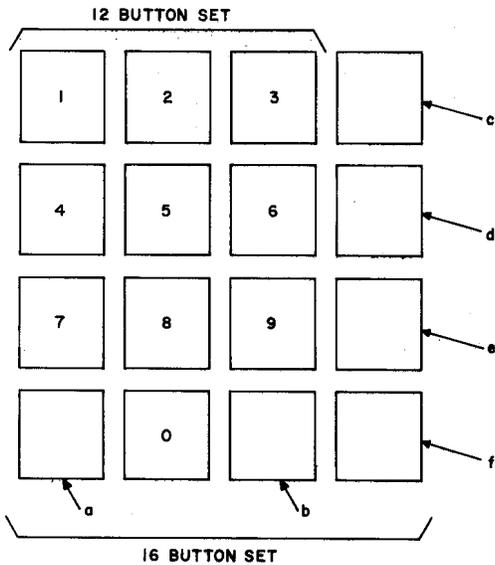

Fig. 4—Printed Characters For 12 and 16 Button TOUCH TONE Sets
- (1) Upon initiation of the originating call, the CT lamp lights indicating cut-through and the last-digit-timing interval begins.
- (2) The tape printer prints the called number as pulsing is received by resetting the last-digit-timer as each digit is recorded. The lower case letters *a* through *f* are printed to represent the additional codes on 12-and 16-button TOUCH-TONE sets. The assignment of these letters is shown in Fig. 4.